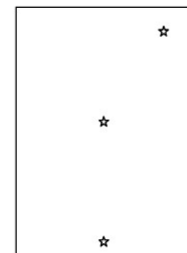

Figure 3.1. An example of temperature measurement locations within a module according to IEC 61853-1.
- The IEC 61853-1 standard recommends measuring the temperature of a module in the three positions shown in *Figure 3.1.* and using the average of the three temperatures for extrapolation to STC. The E-1000 has been programmed to be able to carry out the average of up to three PT-1000s measured with the E-Sens or use the average with a number of points selected by the user and measured with the E-Temp.
- When measuring module string temperatures, it is recommended to take the temperature of at least three of the modules in the string, at the three points indicated in *Figure 3.1.* within each module. It is recommended to take one module near the end of the string and two modules from the center of the string. For this, the use of the E-Temp is very useful, which allows taking these measurements wirelessly.